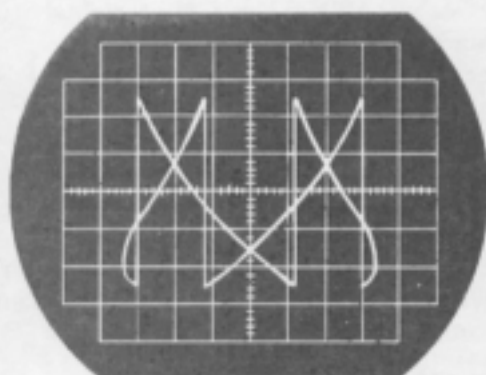

Fig. 13 Lissajous pattern
4. Adjust VR3 so that a Lissajous pattern is traced on the oscilloscope (Fig. 13).